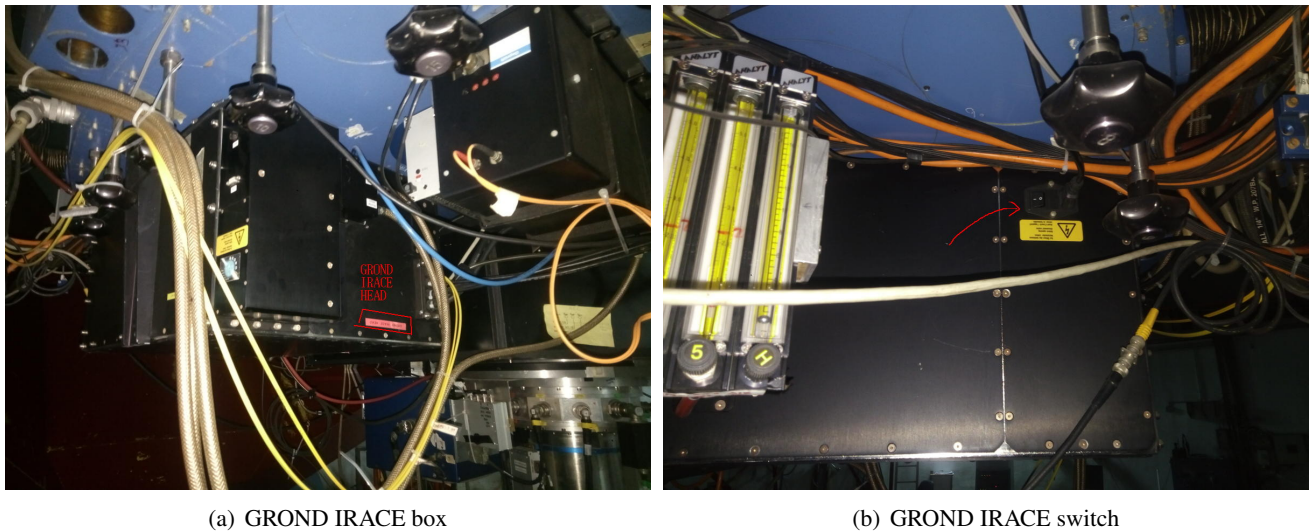

Figure 9.12: The GROND infrared electronics (IRACE) box below the main mirror of the telescope. The power switch is located towards the pier.
5. Locate the power switch of the IRACE box (Fig. 9.12) below the main mirror.